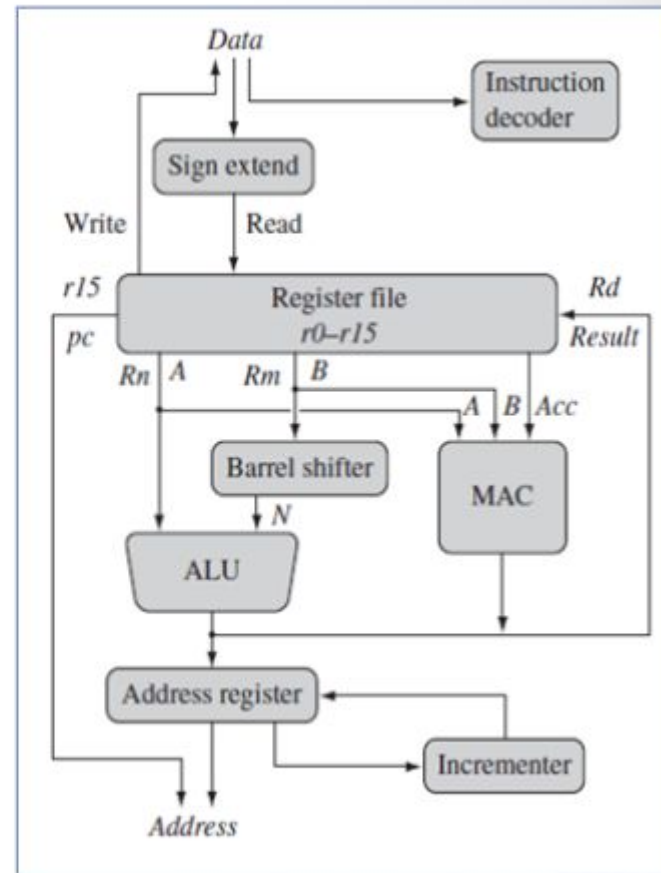

Fig 1: ARM core dataflow model.
- ❑ In Fig 1 shows, an ARM core as functional units connected by data buses.
- ❑ Figure 1 shows a **Von Neumann** implementation of the ARM— **data items and instructions** share the **same bus**. In contrast, **Harvard implementations** of the ARM use two different buses.